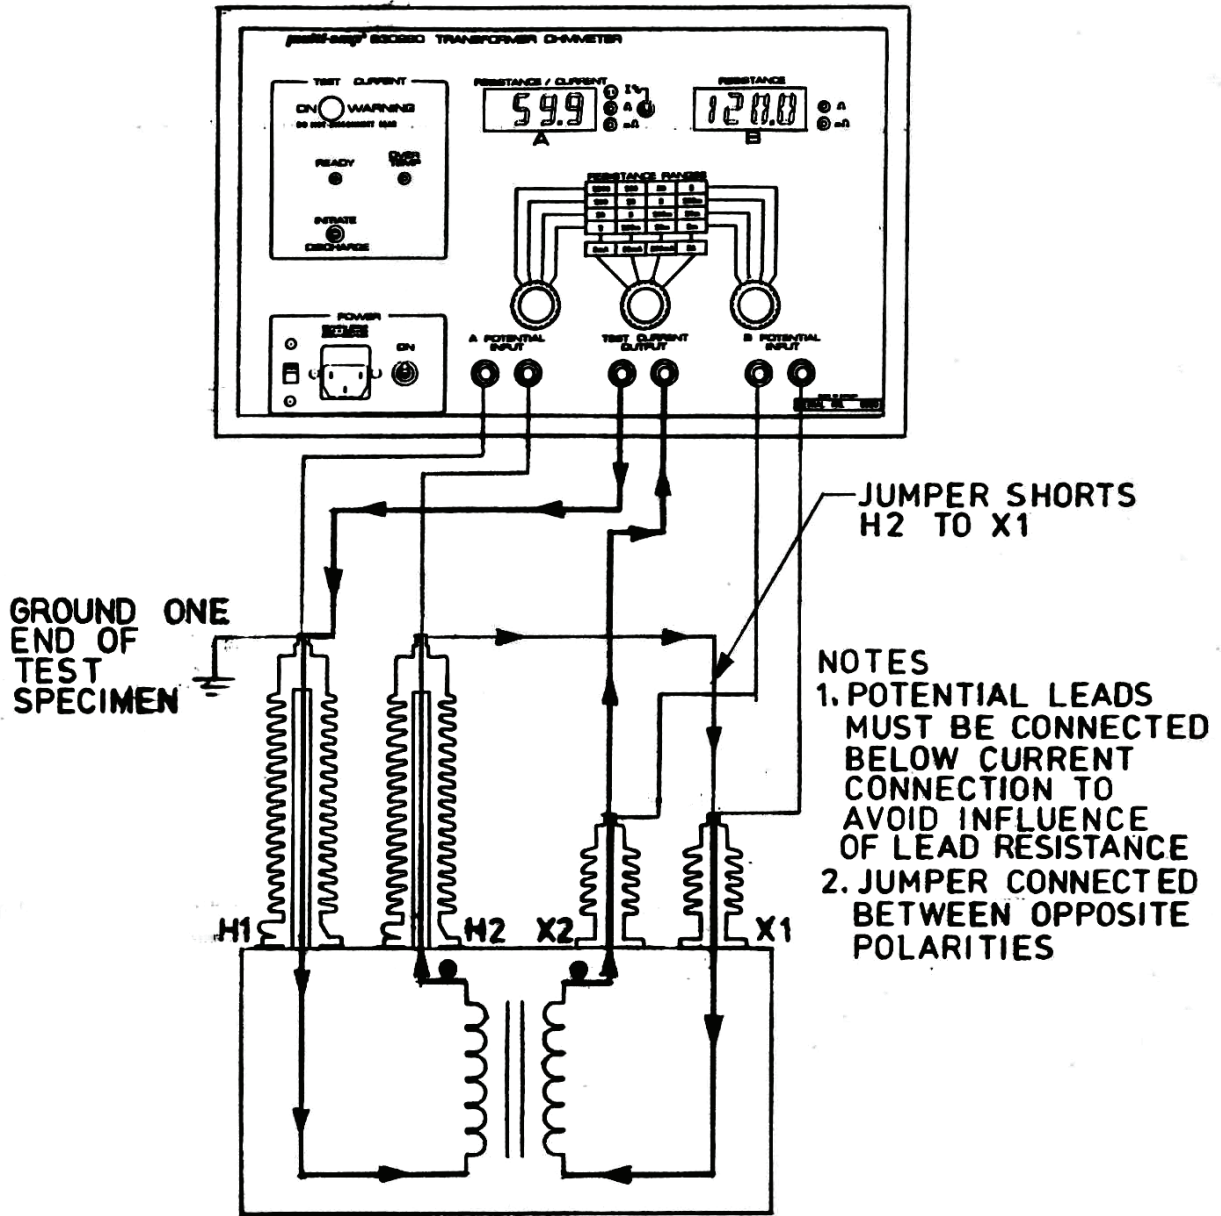

FIGURE 3: DUAL WINDING TEST
See Figure 3 for connection to test transformer.
**It should be carefully noted that the jumper in Figure 3 be connected to opposite polarities of transformer in order to achieve correct results.**
- a. Display Selector (14): down position.
- b. Range Selector "A" (12): left most position.
- c. Range Selector "B" (13): right most position.
- d. Current Selector (11): to desired test current. Best results will be at highest current (guide by resistance table on face plate).
3. Connect current output (9) to test specimen winding. See Figure 3.
4. Connect "A" potential input (8) to H1 and H2 terminals of test transformer. Potential leads should be placed inside current lead and shorting jumper.
5. Connect "B" potential input (10) to X1 and X2 terminals of test transformer. Potential leads should be placed inside current lead and shorting jumper.
6. Turn power Switch (1) "ON". "READY" L.E.D. (5) should illuminate.
7. Push current control switch (4) up to initiate flow. Release when current indicator (7) comes on.
12. When measurement is complete, push the momentary current control switch (4) down to terminate measurement and discharge current. Discharge is complete when current indicator (7) is OFF.